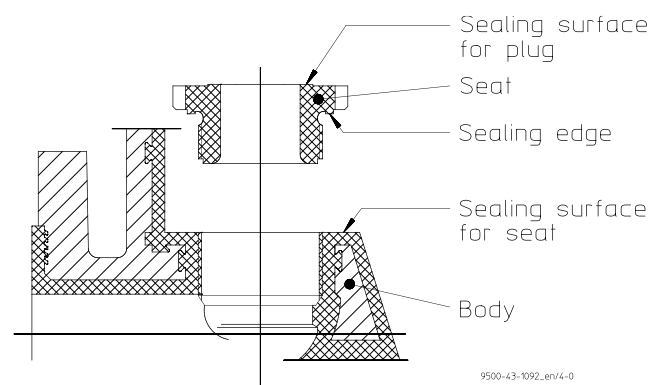

Fig. 8
- ◆ The new seat is to be carefully protected prior to assembly. The sealing edge and the sealing surface for the plug must not be damaged. See **Fig. 8**.